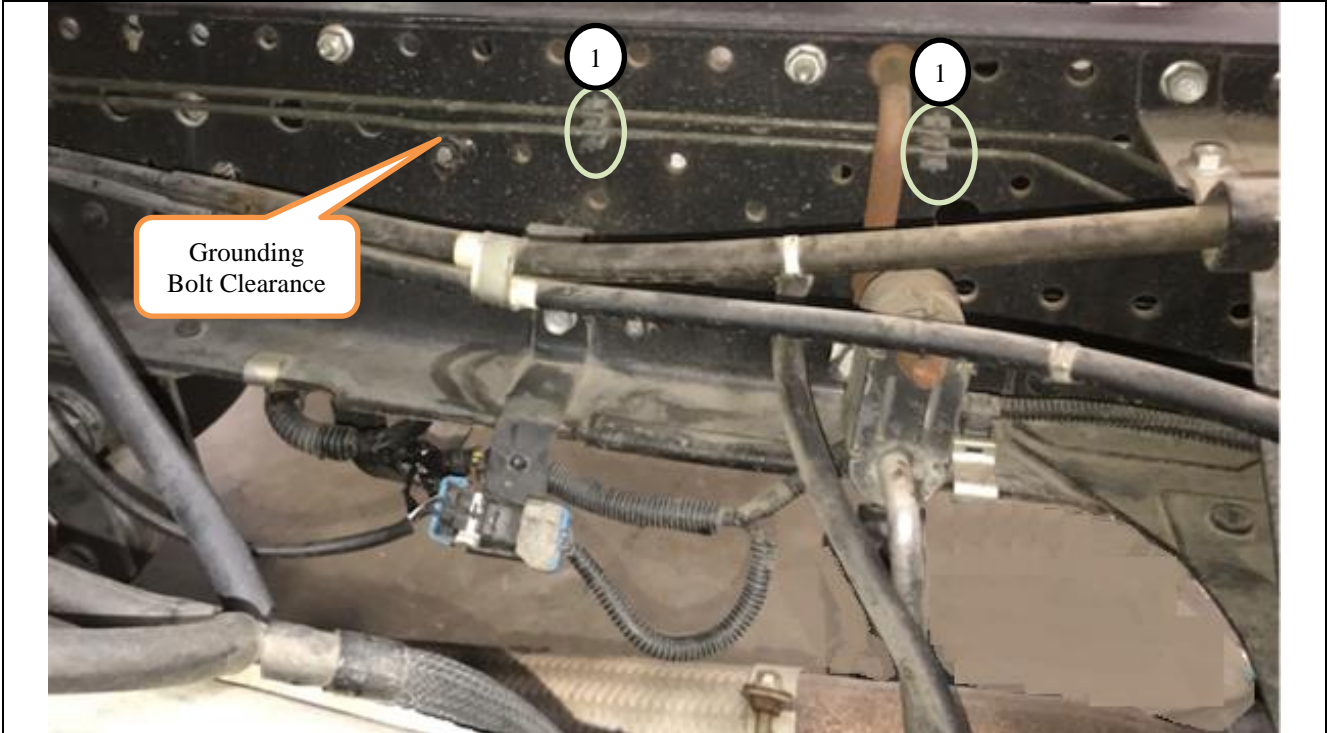

Figure 1 – 1-Pipe Clip Correct Location
2. Inspect the two (2) brake pipe clips on the inside of the Right Hand Frame Channel as shown in Figure 1 for proper placement.
- If the brake pipe clips are in the correct locations (see Figure 1), skip to “Applying the Campaign Label”.
13. Remove the 8 plastic clips securing the brake lines to the frame one at a time. The clips may be broken when removing them. Replace each clip with the same type of new clip as each old one is removed. Ensure that each new clip is installed in the correct location with the correct (original) orientation. Ensure that any pipe clips that were originally installed in an incorrect location are newly installed in the proper location. (See Figures 1, 2, and 9.)